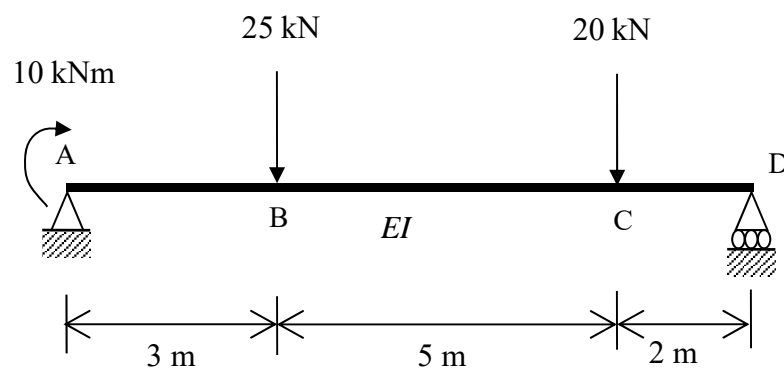

Figure 2/Rajah 2
- [b] A beam as shown in **Figure 2** is subjected to two point loads of 25 kN and 20 kN at points B and C, respectively, and a concentrated moment of 10 kNm at point A. Using $E = 200$ GPa and $I = 300(10^6)$ mm⁴, calculate the maximum deflection of the beam. Use either moment-area method or conjugate-beam method.